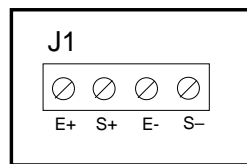

Figure 2-2: Connection assignments for the Load Cell Terminal (J1)
1. Connect your shielded load cell cable (not included) to terminal J1 on the main board. Connection assignments for the Load Cell Terminal (J1) are shown in Figure 2-2.